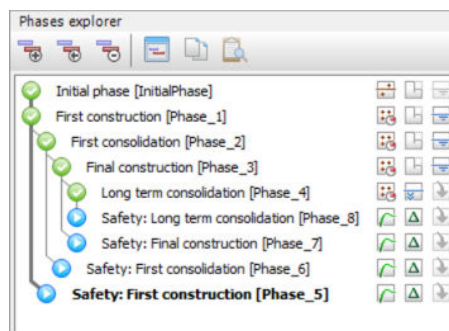

Figure 100: Phases explorer displaying the Safety calculation phases
8. Follow the same steps to create new calculation phases that analyse the stability at the end of each consolidation phase. In addition to selecting **Safety** as calculation type, select the corresponding consolidation phase as the **Start from phase** parameter. The **Phases** explorer displaying the **Safety** calculation phases is shown in Figure 100 (on page 126).